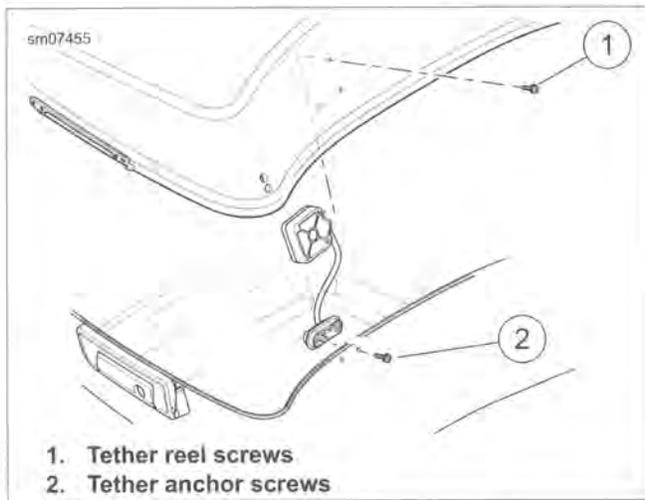

Figure 2-125. Tether Mechanism Screws
2. See Figure 2-125. Remove screws (2).
3. Remove screws (1) securing tether reel.
1. See Figure 2-125. Secure tether reel with screws (1).